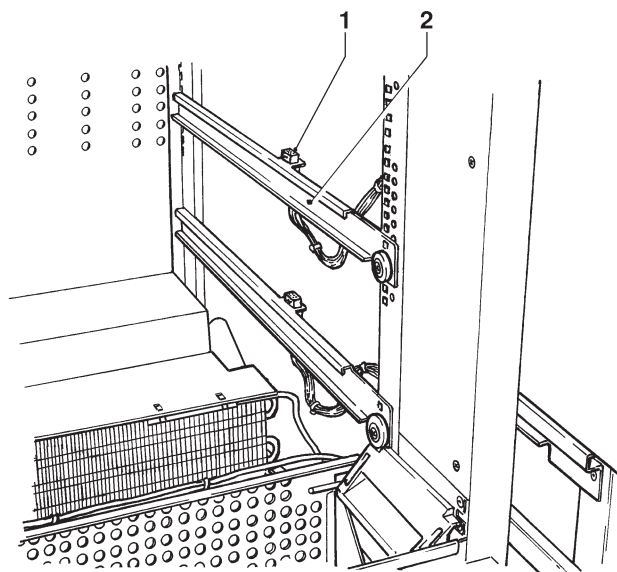

Fig. 36
- Move the guides (see fig. 36) placed on the side supports, except for the first ones at the bottom which stay in the same position.